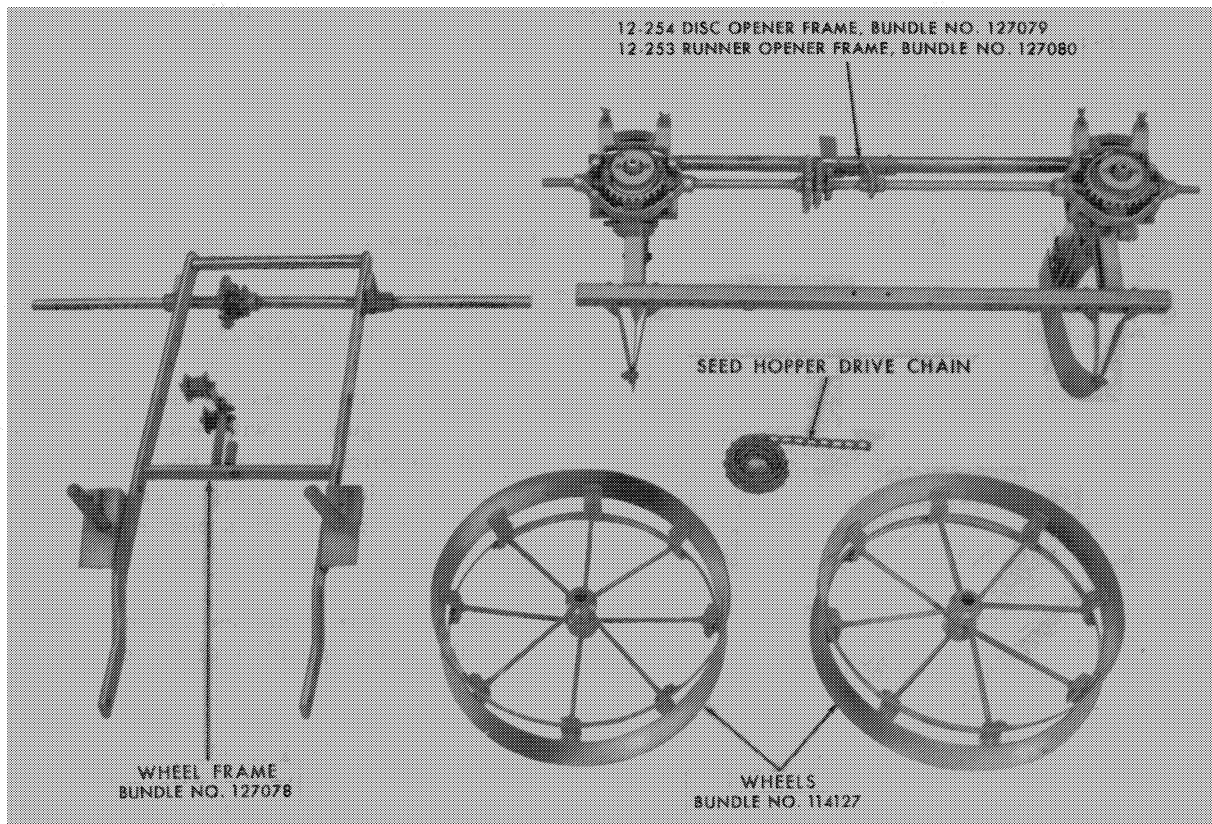

Figure 6
The basic planter is available with either double disc openers (12-254) or runner openers (12-253) and is shipped in three bundles, as shown in Figure 6.
1. Unpack the parts and check with Figure 6 to be sure none are missing.
NOTE: Two complete units, as shown in Figure 6, are required for the four-row planter. If the planter is to be equipped with fertilizer attachments, install the drive sprockets at this time. For installation procedures, refer to page 21 of this manual.
NOTE: *Three complete units, Figure 6, are required for the six-row planter. If the planter is to be equipped with fertilizer attachments, install the drive sprockets at this time. For installation procedures, refer to page 21 of this manual.*